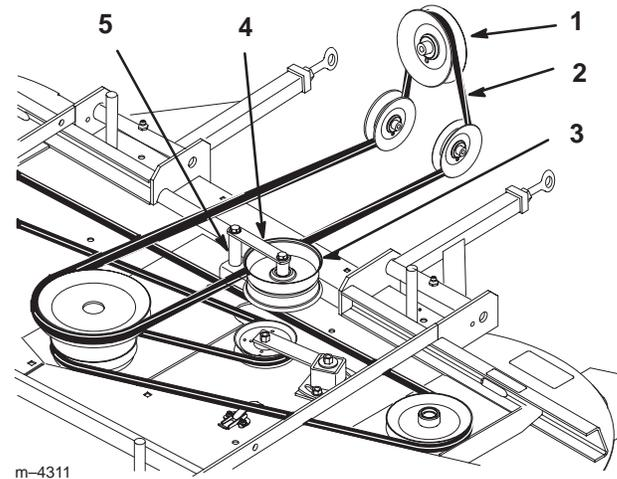

Figure 59
3. Remove the PTO drive belt from the clutch, around the rear idler pulleys, and off of the mower top center pulley (Fig. 59).
4. Remove the bolt, nut, washer, and spacer from the idler pulley bracket assembly. Remove the belt from the bracket assembly (Fig. 59).
6. Install the belt into the idler pulley bracket assembly. Install the bolt, nut, washer, and spacer into the assembly (Fig. 59).